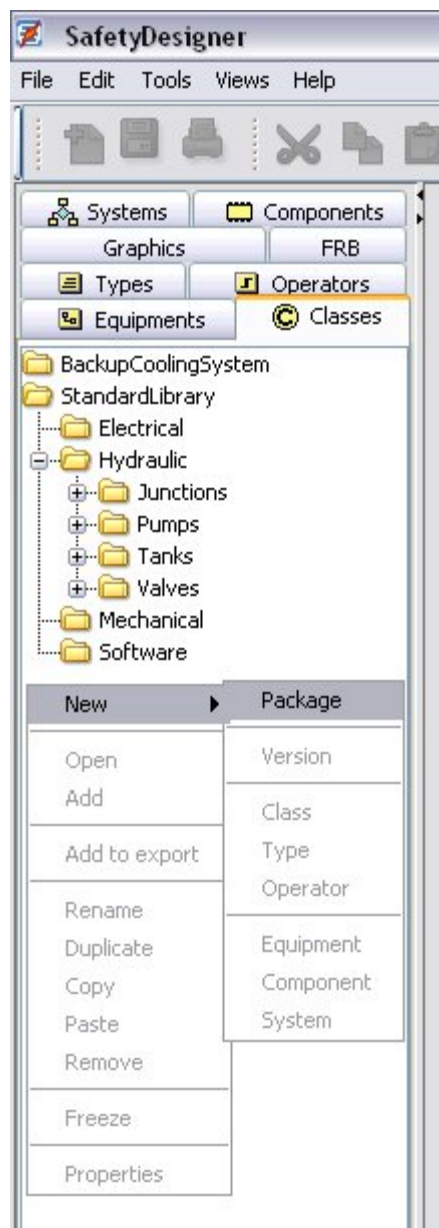

Figure 11: Model edition and organization contextual menu
2. Right-click in an empty area (no existing package must be selected); the Figure 11: Model edition and organization contextual menu opens
3. Right click on the existing package to display the Figure 11: Model edition and organization contextual menu